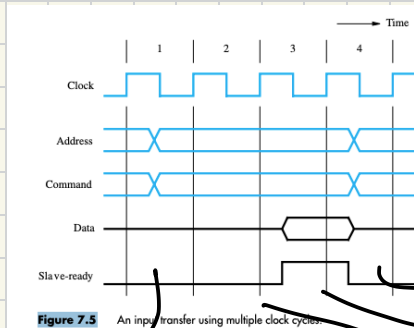

Figure 7.5 An input transfer using multiple clock cycles
7.18 [M] Data are stored in a small memory in an input interface connected to a synchronous bus that uses the protocol of Figure 7.5. Read and Write operations on the bus are indicated by a Command line called R/W. The speed of the memory is such that two clock cycles are required to read data from the memory. Design a circuit to generate the Slave-ready response of this interface.